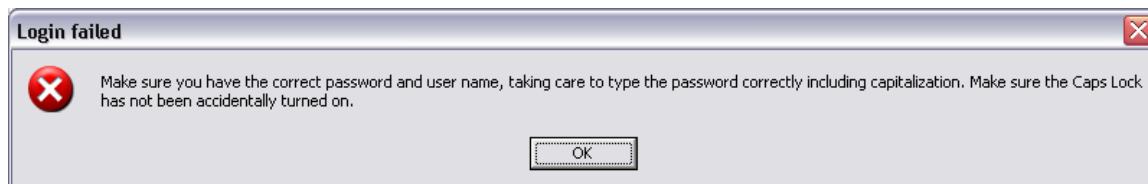

Fig. 8.12. Incorrect Login Error Message.
2. If the user name or password is incorrect, an error message will be displayed (Figure 8.12).